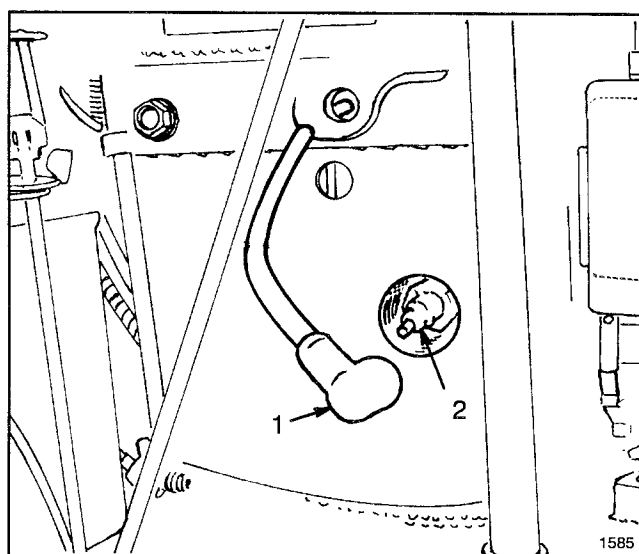

Figure 7
To prevent accidental starting of the engine while performing maintenance, shut engine off, remove key from ignition switch and pull wire off spark plug (Fig. 7). Make sure wire does not contact plug accidentally.
2. Stop engine and pull wire off spark plug (Fig. 7).